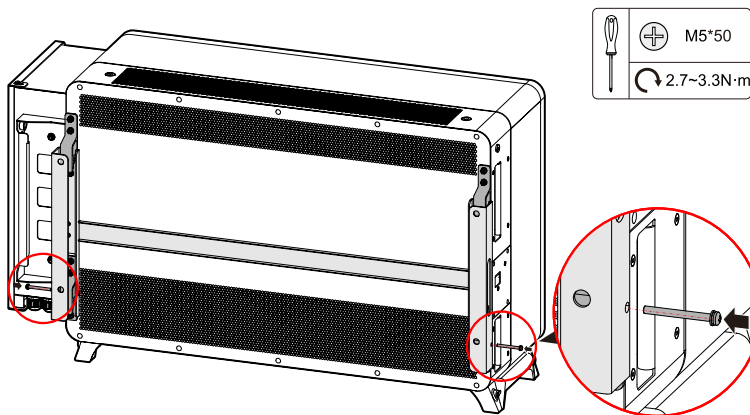

Figure3-25 Fix inverter
Step 7 Fix inverter to the installation holder through the equipped M5*50 screws, as shown as shown in Figure3-25.